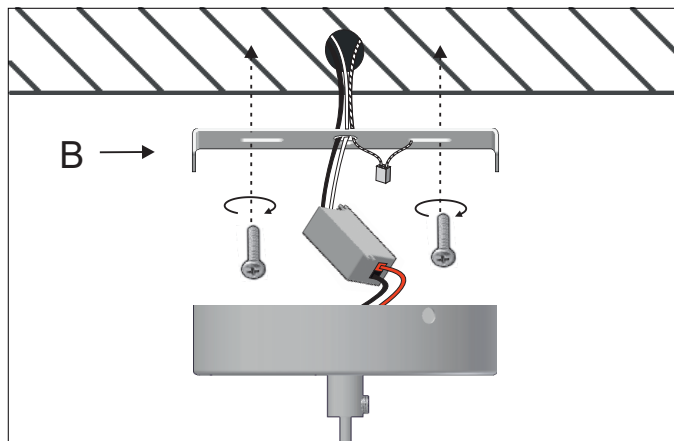

Figure 3A
Make the electrical connections. Attach the mounting bracket (B) to the ceiling. Figure 3A.